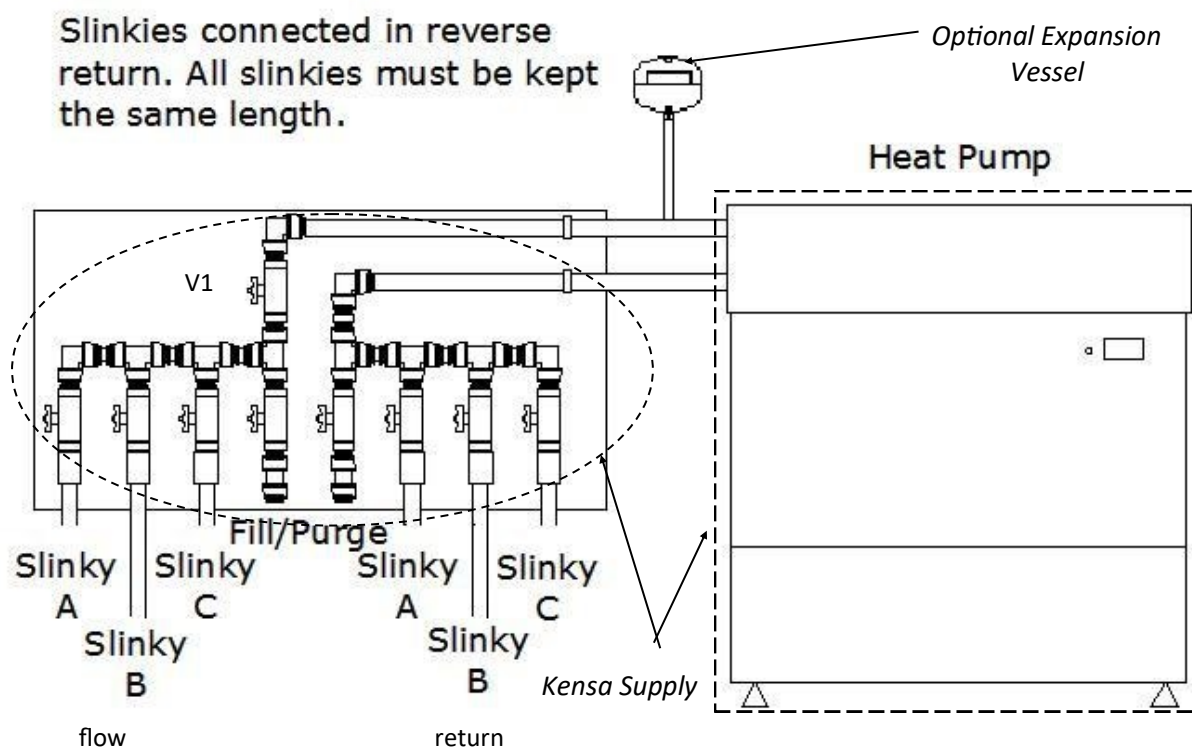

Fig 25 Slinky manifold connections
- iii. Place a filter such as a kitchen sieve over the pipe returning water to the dustbin so any debris will be captured. Ensure all valves are closed including the heat pump valve V1. Open the valves on the manifold in the following order (refer to above diagram Fig 25) :-